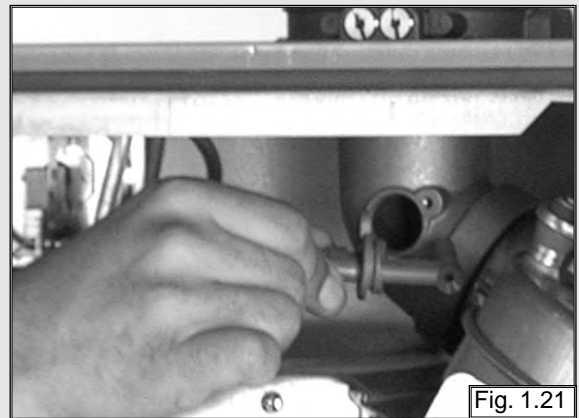

Fig. 1.21
2. Extract the venturi (see fig. 1.21).